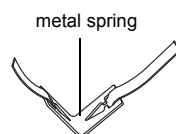

Fig. 8.14: Tension strap with metal spring and tension strap clamp
- Insert the tension strap into the tension strap clamp and the metal spring (see Fig. 8.14). It is not necessary to mount the metal spring: